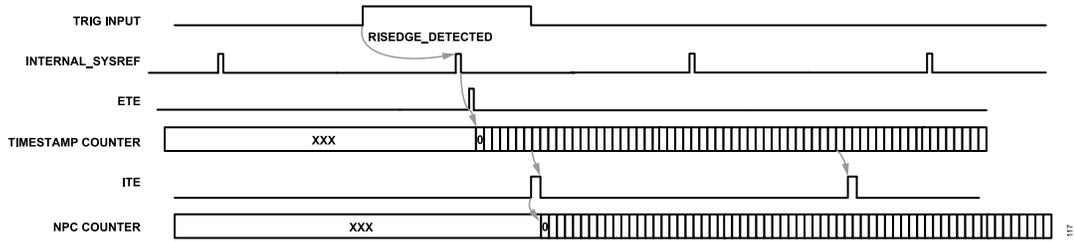

Figure 119. Example Timing Diagram of Dynamic Reconfiguration
- ▶ **SYNC\_EVENT (SE)**: The SYNC\_EVENT refers to a full chip event that causes a re-alignment of the “internal\_sysref” and all root clocks within AD9084/AD9088. This could be a change in the external SYSREF phase monitored by the sync logic or initiated by the customer FPGA/ASIC.
- ▶ **Timestamp (TS) counter**: Timestamp counter is a 64-bit incrementing counter running in digital which can be reset by an ETE. Timestamp counter would be used by a “Trigger module” block to generate periodic internal trigger events at programmable periodicity and offsets with respect to each other. Physically, there would be one timestamp counter each in receiver\_A, transmitter\_A, receiver\_B and transmitter\_B. The timestamp counters in receiver\_A and receiver\_B would function identically (should be reset by the same ETE). Similarly, the timestamp counters in transmitter\_A and transmitter\_B would function identically. In chip configuration cases where ADC and DAC operate in the same frequencies, all four timestamp counters would function identically.
- ▶ An example diagram showing the terms discussed above is given in Figure 119 :